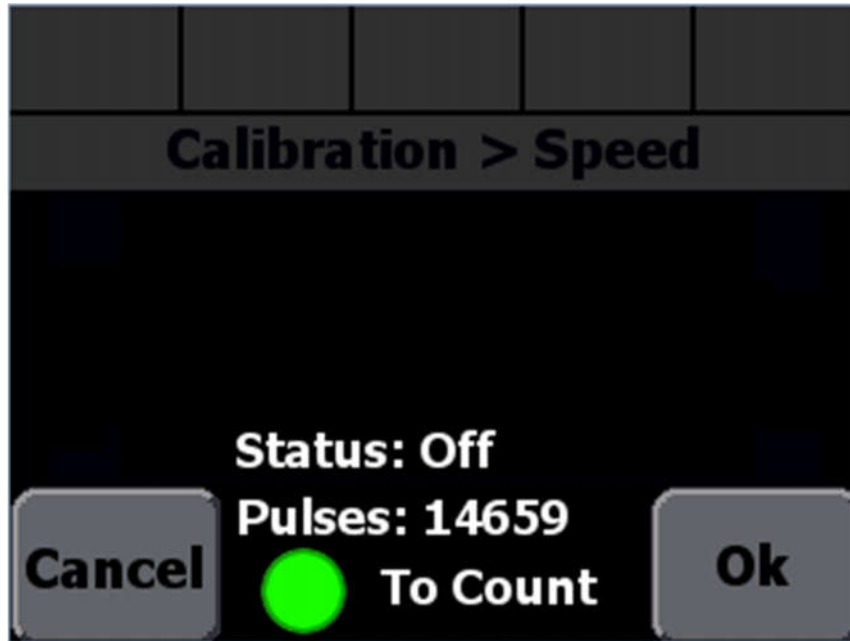

Figure 3: Cal By Distance Screen after Counting Pulses
- STEP 7: Press the green Standby knob to stop counting axle pulses. The status should change to "Off", as shown in Figure 3.